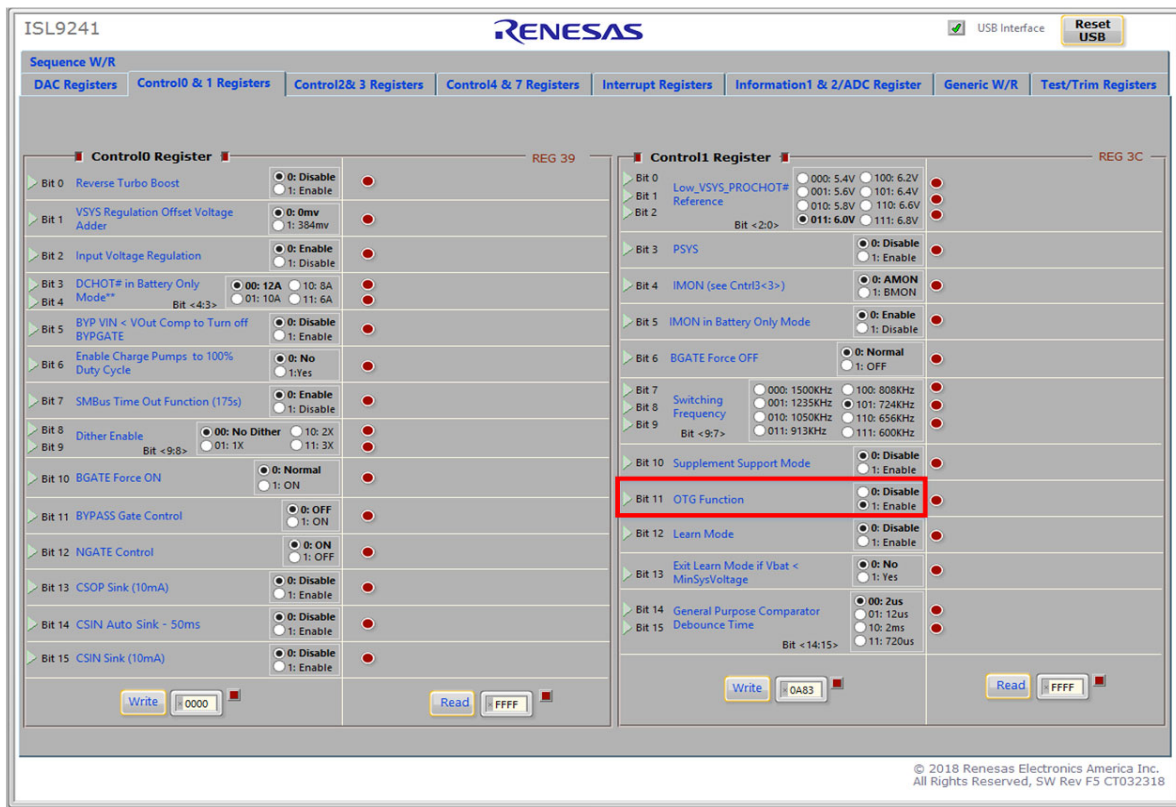

Figure 10. Enabling OTG Function
6. In the **Control1 Register** column, select **1: Enable** in **OTG Function** to enable OTG, then click **Write**. See Figure 10 on page 12.